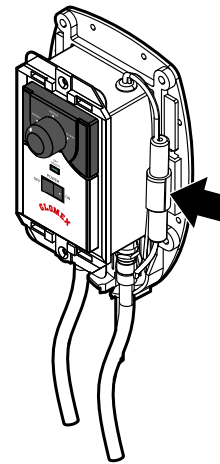

Fig. 33
- Remove the blown fuse from its seat indicated in **Fig. 33** and replace it with a new one (**type T 3.15A L 250 VAC 5x20**, i.e. delayed-action tube fuse, with 5 mm diameter and 20 mm length, 3.15 A rated current and 250 V rated voltage).